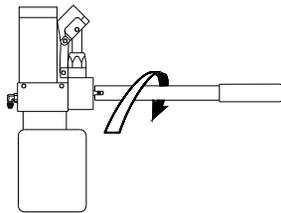

FIGURE 2-16: CLOCKWISE CLOSES RELEASE VALVE
- 1) Refer to **Figure 2-16**. Verify that pump pressure release valve is closed (CW).